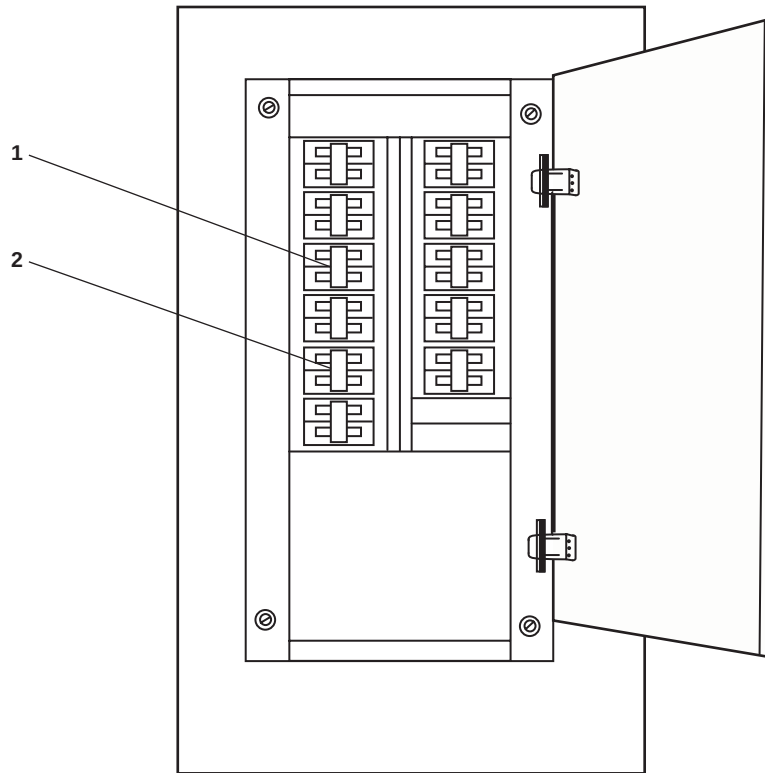

Figure 1. 120V Exterior Emergency Lighting Panel No. 2
1. At 120V exterior emergency lighting panel No. 2, set to OFF, lock out, and tag out (FM 55-502) the WINDSCREEN WIPERS. (PORT & STARBOARD FWD). circuit breaker (figure 1, item 1) and the WINDSCREEN WIPERS. (STARBOARD & PORT FWD). circuit breaker (figure 1, item 2).
3. At 120V exterior emergency lighting panel No. 2, remove the lockouts, and tagouts (FM 55-502) and set to ON the WINDSCREEN WIPERS. (PORT & STARBOARD FWD). circuit breaker (figure 1, item 1) and the WINDSCREEN WIPERS. (STARBOARD & PORT FWD). circuit breaker (figure 1, item 2).